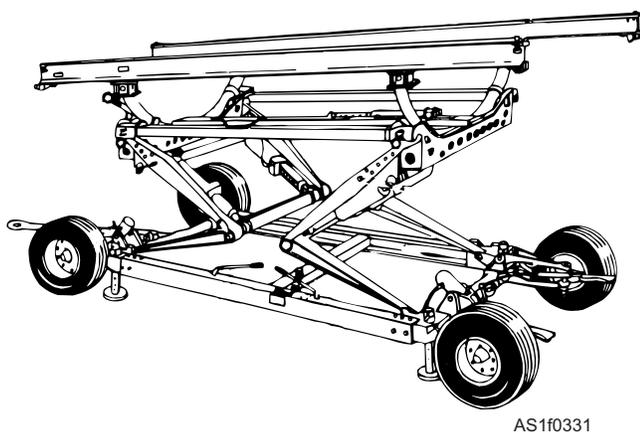

Figure 1-33.—4000A engine removal trailer.
**4000A ENGINE REMOVAL TRAILER.**—The 4000A engine removal trailer (fig. 1-33) is a mobile, hydraulically controlled, self-supporting unit. It is designed for removing and positioning aircraft engines and moving them short distances. The trailer consists of a main frame supported by four wheels, a lift linkage system, an upper frame that holds two cradle assemblies, and a tube and rail assembly. It has a detachable towbar, and it is also extendable for longer loads. Foot lever-actuated drum/shoe type parking brakes are located on the two rear wheels.